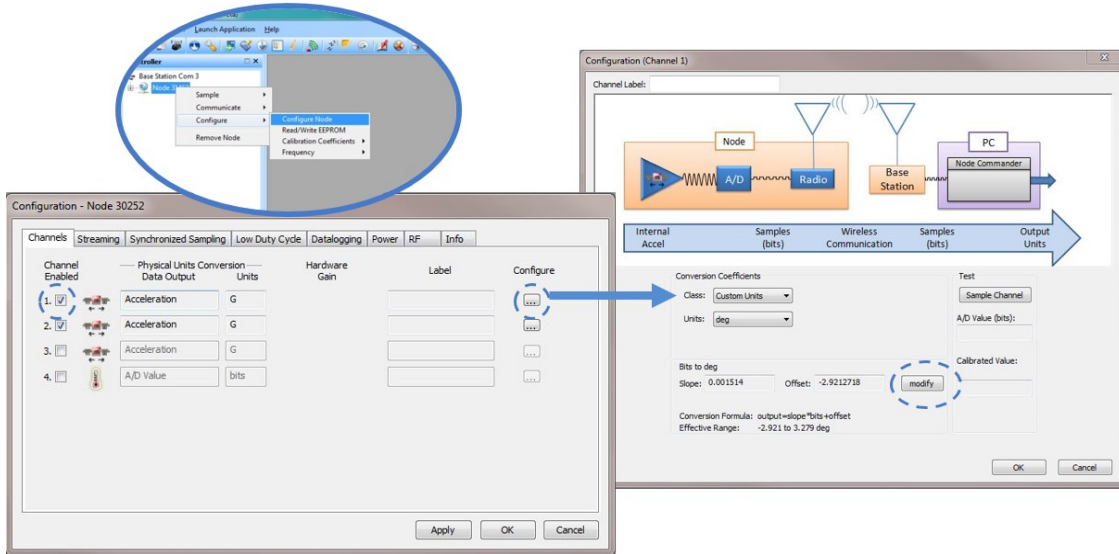

**Figure 2 - New Calibration Values**
3. **Calculate the new slope and offset value:** In the calculator, enter the current factory calibration values in the corresponding fields (*Figure 2 - New Calibration Values*). Up to two channels can be calculated at once. The new calibration values are displayed on the graph as the formula  $y = mx + b$ , where  $m$  equals the new slope value and  $b$  equals the new offset value.